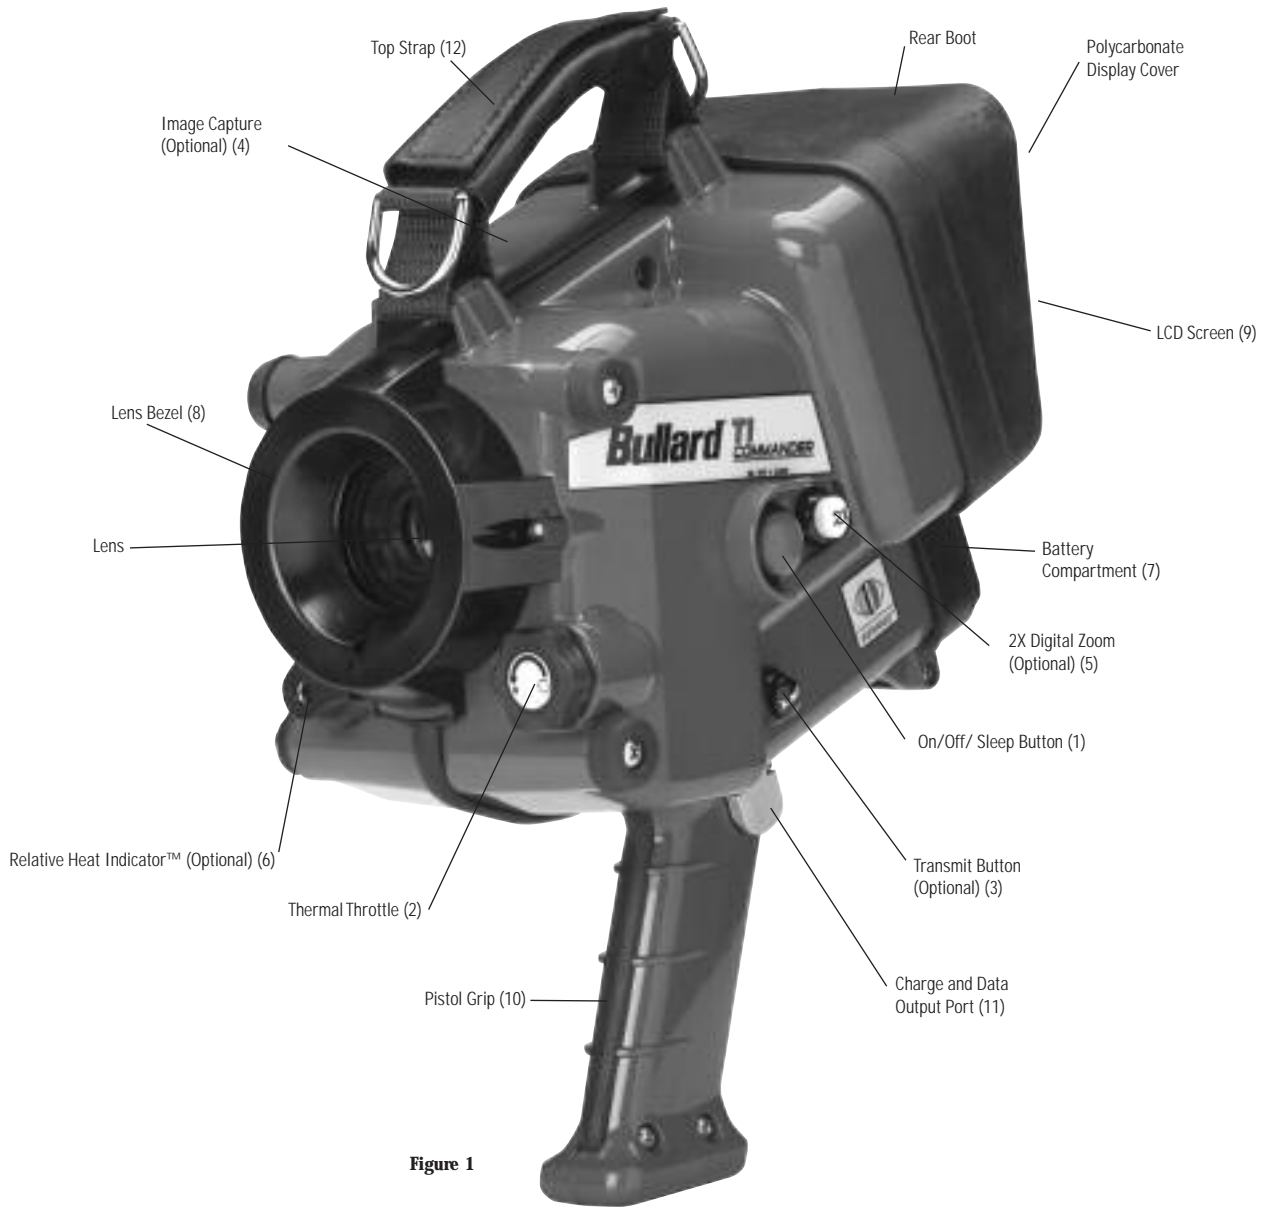

Figure 1
The Bullard TI Commander can be equipped with temperature measurement capability (**Item 6, Figure 1**). If equipped, the right side of the display will show a bar graph or Relative Heat Indicator (RHI). The RHI will indicate the approximate temperature of the object viewed within the "crosshairs" shown in the middle of the screen. The accuracy of the RHI is dependent on numerous factors including the distance from the object being viewed and its emissivity, which is the object's ability to radiate heat. The Bullard TI has a preset emissivity corresponding with typical residential wood construction. Objects with emissivities that vary greatly from this will reduce the accuracy of the temperature indication. Additionally, temperature measurement accuracy decreases as the distance from the object in the "crosshairs" increases as well as other factors such as atmosphere contamination (i.e. smoke, fog, dust, or condensation on the lens).
The Bullard TI Commander can be equipped with digital 2X zoom capability. To activate the digital zoom feature, press the white button located next to the red "On/Off" button (**Item 1, Figure 1**). The image on the display will toggle to a 2X image, and the symbol "2X" will appear in the bottom left corner of the screen. To deactivate the zoom feature, press the white button again and normal viewing will resume.
The Bullard TI Commander has built in video out capability. With the optional video-out RCA cable (part number CMDRCACABLE), you can output the displayed thermal imagery to an external monitoring or recording device such as a TV, VCR, or personal computer. To output video to an external device, connect the video cable to your TI Commander via the 5 pin connector (**Item 11, Figure 1**). Connect the other end via the optional RCA connector to the external device. Adjust the external device to the appropriate setting and/or configuration (refer to the device's instruction manual) to capture the video stream.
Activating the Transmitter: To initiate transmission on the Bullard TI Commander, press the black transmitter button marked "XMIT" (Item 3, Figure 1). A "1" will appear on the top left corner of the TI Commander display indicating that the unit is transmitting on channel 1.
Activating the Transmitter: To initiate transmission on the Bullard TI Commander, press the black transmitter button marked "XMIT" (Item 3, Figure 1). An "A" will appear on the top left corner of the TI Commander display indicating that the unit is transmitting on channel A.
- Refer to Figure 1 for an assembly diagram. The mount requires a 3/4" (19mm) hole in a flat area with a thickness of (0.5mm to 1.0mm) .020" to .040".